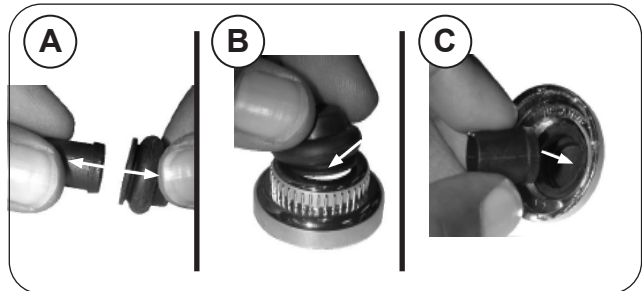

Fig. 36-3 Rubber cap replacement
1. Pull the rubber cap and the inner plastic sleeve apart (see Fig. 36-3, A).
2. Carefully insert the rubber cap into the igniter cover so it sits behind inner lip (see Fig. 36-3, B).
3. Turn the cap over and slide the inner plastic sleeve into the cap (see Fig. 36-3, C).